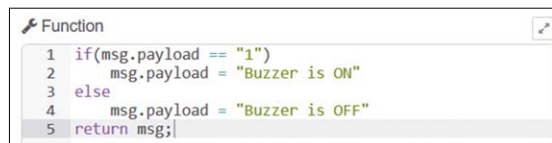

Figure 5.33 Configure the function node
- Create a **function** node, name it as **Buzzer State**, enter the following statements, and click **Done** (Figure 5.33):